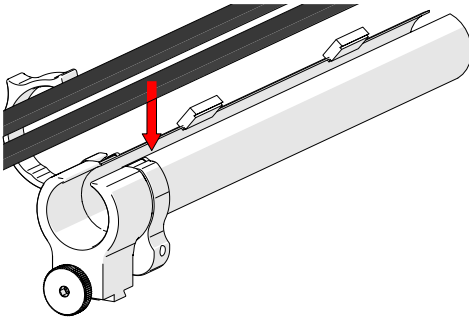

Fig. 69 - Insert cables and hoses
1. Open the zipper of the cable management. Begin at the tube's dovetail mount and place the cabling in the tube (Fig. 69).